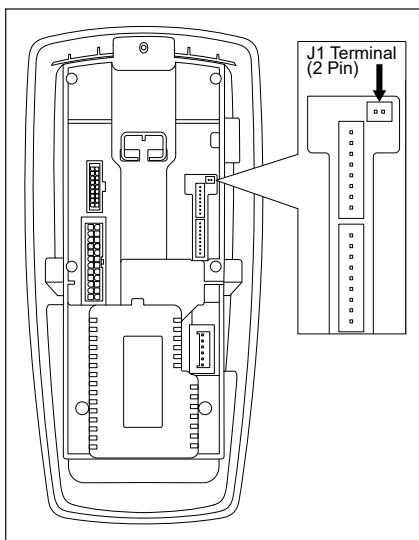

Figure 64 - Locating J1 Terminal on Control Board
**11** Disconnect the condensate switch wires from the J1 control board terminal located behind the control assembly (see Figure 64).